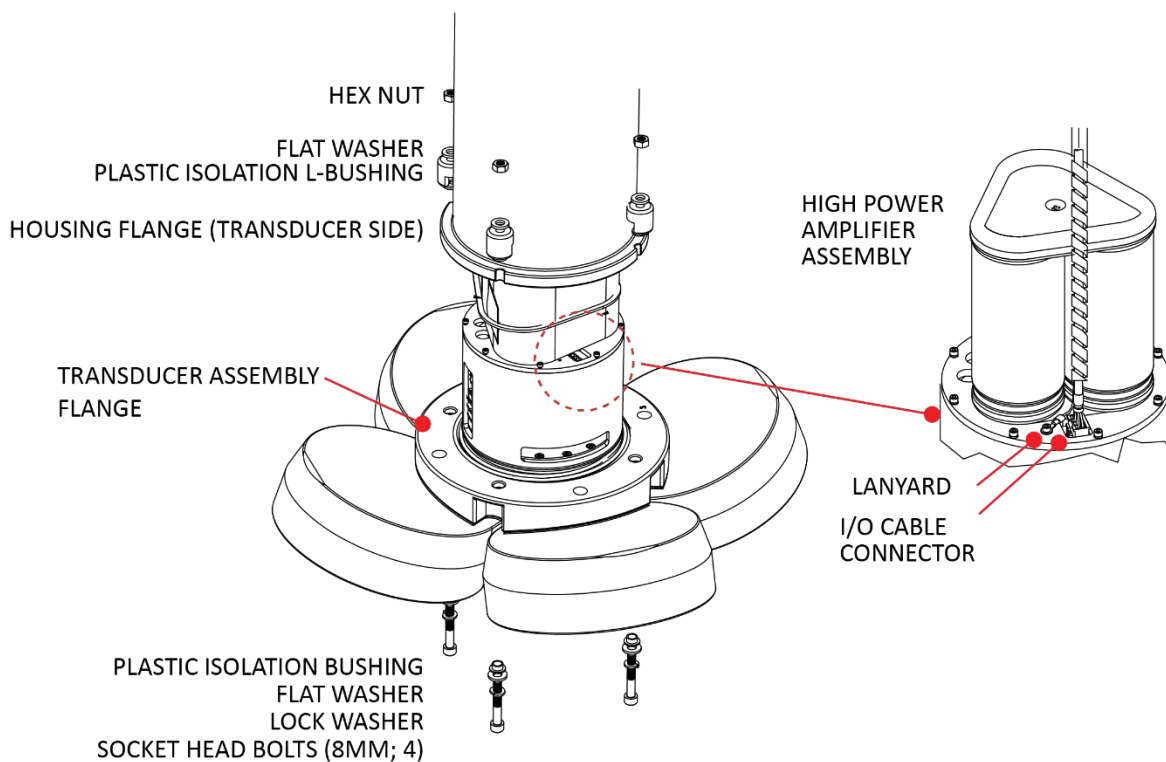

Figure 33. Housing Mounting Hardware
6. Examine the housing assembly nuts, bolts, and washers (8 mm) for corrosion; replace if necessary. Figure 33 shows the assembly order of the transducer mounting hardware. *All* hardware items are needed to seal the Long Ranger / QuarterMaster properly.